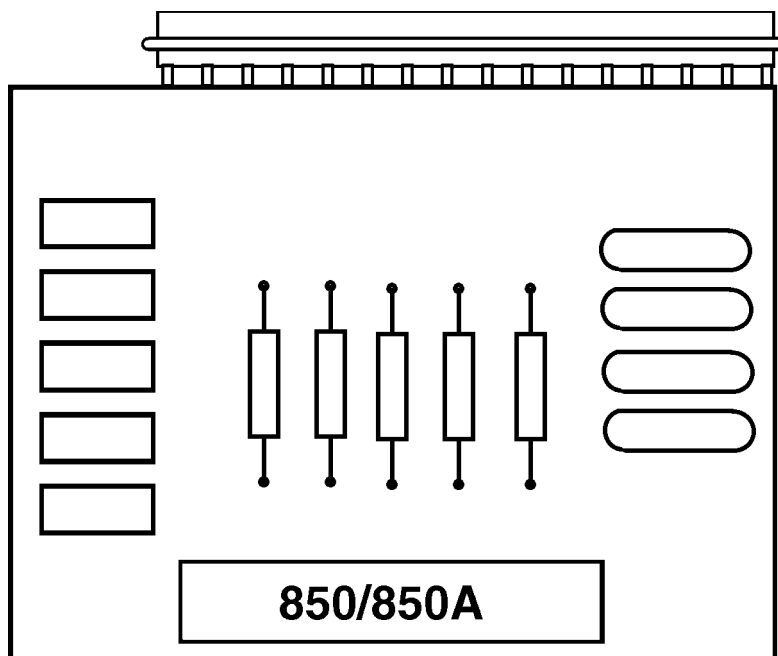

Fig. 3-9 RS-232 DB25 board.
5. To remove the RS-232 DB25 board, unscrew the two hex screws (on the exterior of the cabinet) holding the connector to the cabinet. From the inside of the cabinet, pull the connector through the panel, and disconnect the cable (see Fig. 3-9 for location).